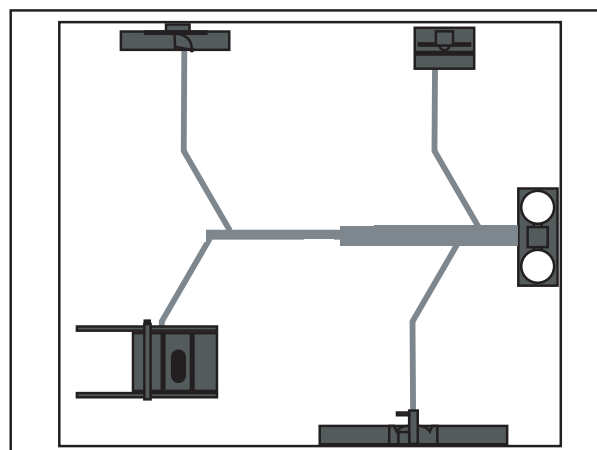

Figure 40. Good duct layout.
2. Ideally, you should design the duct system to have the shortest possible main line and secondary branch ducts. See **Figures 40 & 41** for ideas of good duct layouts vs bad duct layouts.